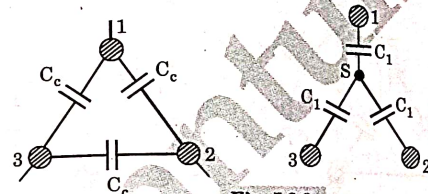

Fig. 5.9.2.
4. The core to core capacitances C_c are in delta and can be presented in the equivalent star as shown in the Fig. 5.9.2.